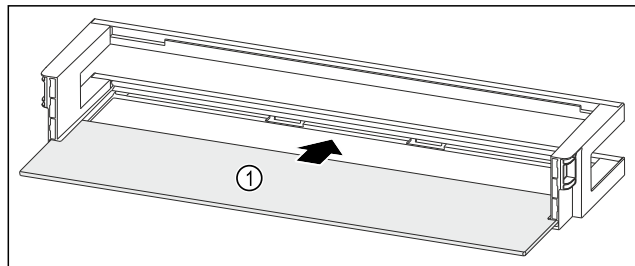

Fig. 172 Door rack with shelf
- ▶ Push the shelf Fig. 172 (1) into the side recesses.